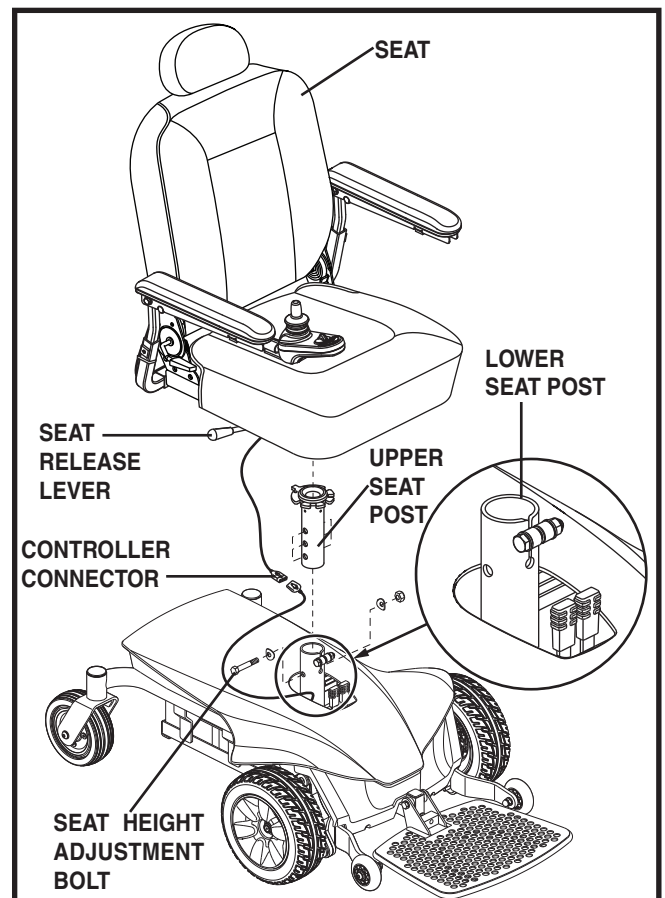

Figure 8. Seat Height Adjustment
3. Disconnect the controller connector from the power base. **See figure 8.**
4. Disengage the seat release lever. **See figure 8.**
5. Loosen the hardware at the rear of the seat post. **See figure 8.**
6. Remove the seat height adjustment bolt, washers, and nuts from the seat post. **See figure 8.**